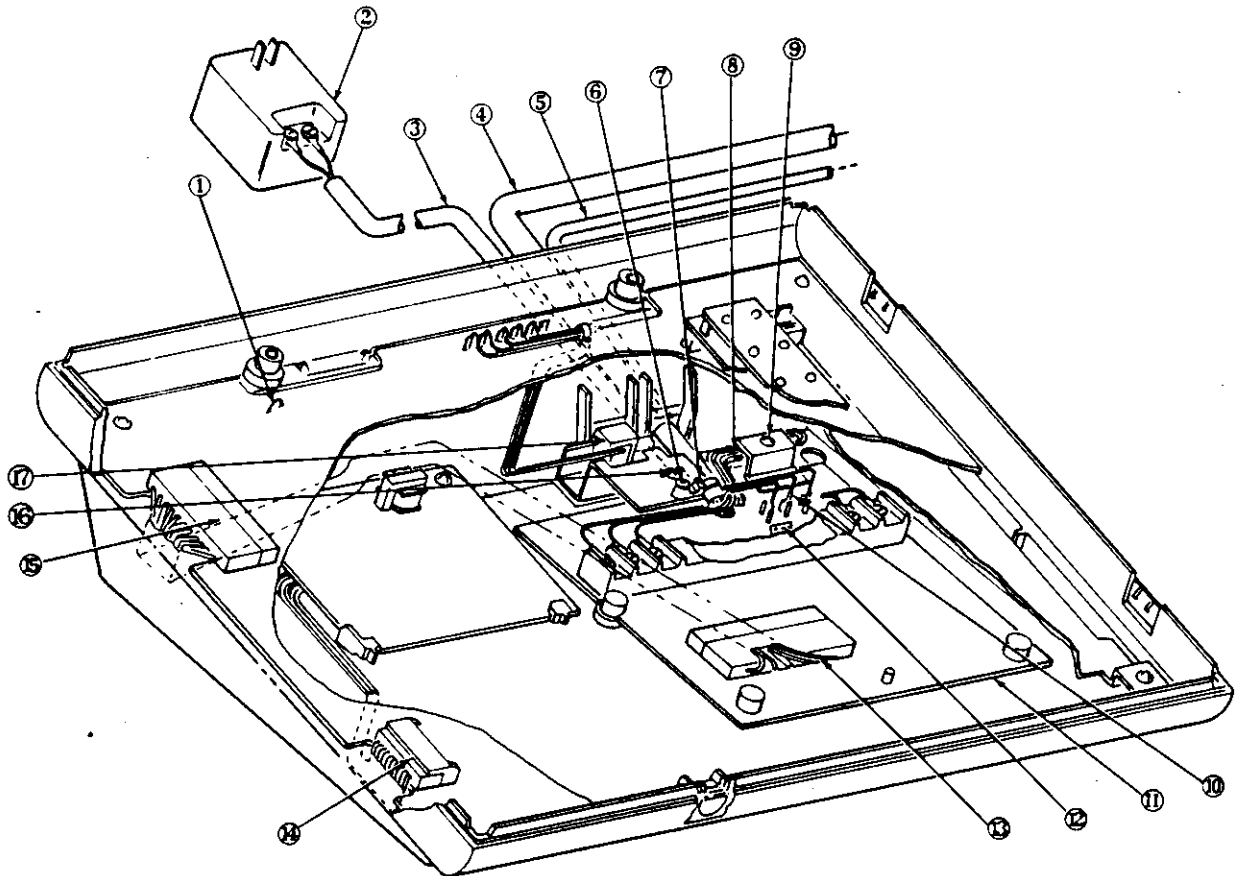

FIGURE 4 – CUT AWAY VIEW OF EKT WITH ESIU PCB INSTALLED
2.6 Reinstall the metal retaining bracket for the modular jack. See Figure 4.
3.3.3 Unscrew the metal bracket holding the ESIU PCB in place. Place the loop formed by the tied wires over the anchoring post for the ESIU PCB. Replace the bracket retaining screw and secure the ESIU metal bracket over the looped wires. See **Figure 4**.
5.2 Connect the fifteen wire ESIU connector cable to the fifteen pin terminal on the ESIU PCB, as shown in **Figure 4**.
5.3 Insert the modular jack (attached to the EKT PCB) back into the metal retaining bracket at the rear of the EKT base. See **Figure 4**.
5.7 Locate strap S1 on the EKT PCB and cut it. See **Figure 4**.
5.8 Connect the ESIU cable to the SPF/P3 connector, located towards the rear on the left edge of the EKT PCB (if this connection was not previously made). If an EHFU is present, reconnect its cable to the P1 connector located on the left edge near the front. See **Figure 4**.